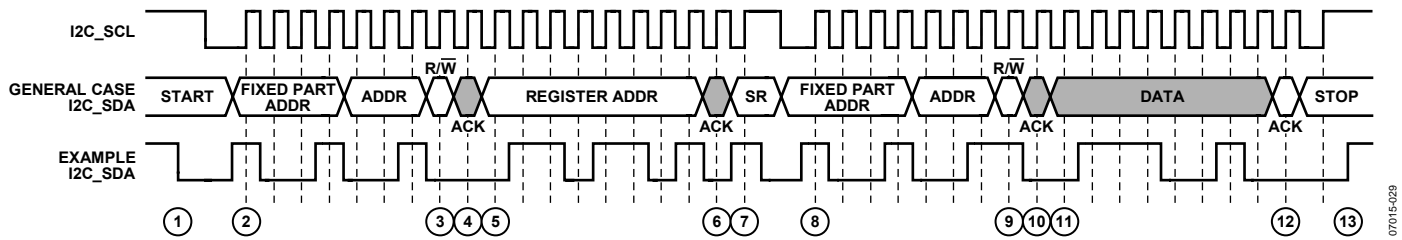

Figure 30. I²C Read Diagram
To read data from the AD8197B register set, an I²C master (such as a microcontroller) needs to send the appropriate control signals to the AD8197B slave device. The signals are controlled by the I²C master, unless otherwise specified. For a diagram of the procedure, see Figure 30. The steps for a read procedure are as follows:
9. Send the read indicator bit (1).
- 13a. Send a stop condition (while holding the I2C_SCL line high, pull the SDA line high) and release control of the bus to end the transaction (shown in Figure 30).